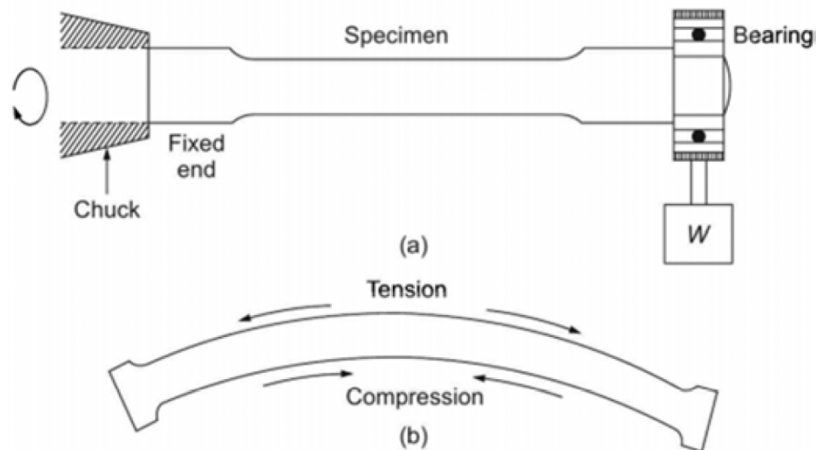

Fig. 4.13: Arrangement of fatigue specimen in the testing machine.
- **Common Machine: Rotating Bending Machine.** A specimen (Fig. 4.13) is rotated while a constant bending load is applied, subjecting the surface to fully reversed stress cycles.